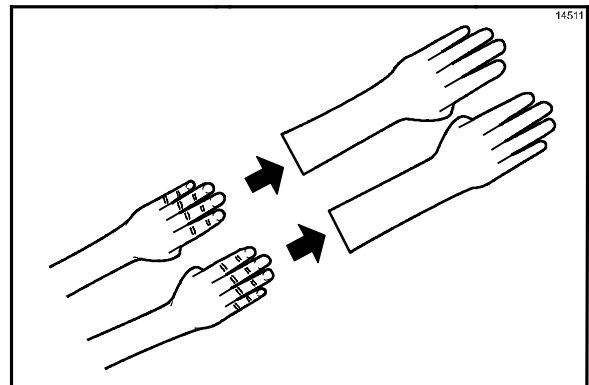

Figure 37
6. Put on heat-resistant gloves. (See Figure 37.)